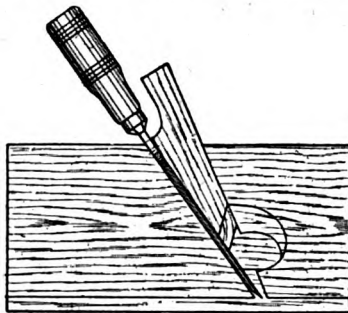
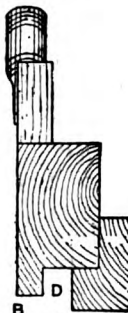
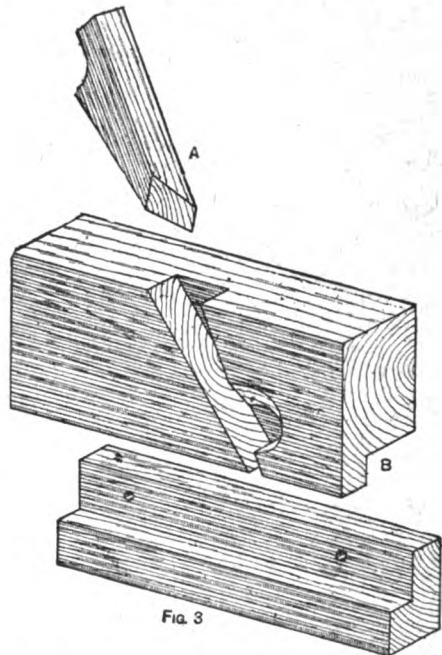

Fig. 1
Fig. 2
Fig. 3
**Sitting-room Chair.**—Fig. 1 shows in part elevation a form of chair known as a ladder-back. The joints of the chair should be made with stub-tenons and mortises. The back is framed up to 3 ft. high, 1 ft. 6 in. wide at the top, and 1 ft. 2 in. at the bottom. The front is 1 ft. 4 in. high by 1 ft. 6 in. wide over all, the total width of the seat from the front to the back being 1 ft. 4 in. A loose seat (see Fig. 2) is framed from 2 in. by 4 in. pine, and webbed on the top; the holes B fit on to
tenons A (Fig. 1) in the top of the knee and prevent the seat moving. In making the back would be framed up complete, then the front, and the two parts connected by the side rails, the seat frame being made last. Beech wood is excellent for chairs, being very clean and bright in grain, but is more expensive than birch; the latter wood is used in immense quantities for chair-making. In the shops the beading would be done on a spindle machine; a hand home-made tool for beading is shown in Fig. 3, being simply two pieces of hardwood screwed together, the cutter being a thin piece of steel filed to shape and placed between the two pieces of wood; the fence keeps the cutter in a true working line. A profile of the bead is shown at C (Fig. 3). Shop-made handbeaders with iron stocks can be purchased fairly cheaply.
tioned together, have the threads in the top strip running across the threads in the bottom strip. When the strips have been rolled well together the ends are joined, one end of the top overlapping the bottom, and the other end of the bottom overlapping the top strip. The tyre is made up on a block of the diameter and shape of the tyre. A section of the block is shown in Fig. 1. On each side of the block running round the circumference is a bead or ledge, on which the wires are placed. The fabric is put over the block and the wires over the fabric on to the beads or ledges. The fabric is put straight, solutioned, and turned over the wires each side and rolled down. When the fabric is dry, it is put over a dummy tyre (an air tube enclosed in a canvas case) and blown up on an ordinary wheel. The wheel is fixed on the bench between two upright strips, slotted to take the spindle passed through the hub. The rubber is put on after being cleaned with benzoline and coated with solution. To get the lines or corrugations straight a guide (Fig. 2) is used. This is made to fit on the edge of the rim and into the corrugations. After the rubber has been well rolled down the edges are trimmed off and the inside of the tyre is rubbed over with French chalk. When the tyres are of ordinary canvas they can be made without the block. If the tyre is to be 3 in. wide, cut the canvas 8 in. wide. Solution one side only. With blue lead draw lines 3 in. apart and 2 in. from each edge. On these lines the canvas will be folded over the wires. The canvas will overlap 1 in., giving three thicknesses for the tread. Solution and roll down the overlapping portion, and solution on this side for the rubber. The canvas can then be blown up on a wheel. A handy tool for stripping off old rubbers can be made as follows. Bend a piece of sheet iron, about No. 12 gauge, as shown in Fig. 3. A gas tube is fixed under the plate with small holes drilled in it at intervals; this is connected to the gas bracket by a rubber tube. The tyre is placed over the hot plate, when the rubber will come off easily.
**Home-made Plough Plane.**—The drawings show a very handy form of plough plane that can be easily made. The stock may be of any wood, but hard wood for preference, the lower part being rebated so as to leave a projection a little smaller than the plough iron, as shown at B (Figs. 2 and 3), or, as is shown in Fig. 1, a chisel will answer the purpose; then by making a wedge-shaped slot, and gouging a hole out as illustrated for the escape of shavings, a wedge A (Fig. 3) can be made to the required shape; this will fasten the chisel into the stock. The
fence (Figs. 2 and 3) is made of another piece of hard wood, which is rebated so as to leave the required distance for working from the side of the material (marked D, Fig. 2). It can be secured to the stock by a couple of screws. The disadvantage of this plane is that the fence would require to have a deeper or shallower rebate for each new job, but the alterations could be made without much trouble.
**Child's Combined Running Stool and Barrow.**—The combined running stool and wheelbarrow illustrated by Fig. 1 may be used for teaching a young child to walk. The leading dimensions are figured on the side and end elevations, Figs. 2 and 3, whilst the following are particulars of the construction. The shafts and handles are  $\frac{1}{2}$  in. square, the legs  $\frac{1}{2}$  in. in diameter, and the rails A, B, and C (Fig. 1)  $\frac{1}{2}$  in. in diameter; they should be made of ash, the body support D,  $\frac{1}{2}$  in. thick finished, being made of any hard wood. The edges of the hole should be rounded off, and the ends of the support fit into grooves made in the
handles, the parts being screwed together. Any kind of wood will be suitable for the barrow, even deal; the bottom end and sides are all  $\frac{1}{2}$  in. thick, and the last are 8 in. wide. The wheels ( $\frac{1}{2}$  in. by 6 in.) and the spindle ( $\frac{1}{2}$  in. square) are made of hard wood. The most suitable joint between the legs and handles at E (Fig. 2) will be the mortise and tenon, and the three rails A, B, and C fit holes bored in the legs and shafts. A groove formed in each of the sides receives the front, and ordinary castors can be used for the bottom of the legs, but those of the ball pattern will be more suitable, as they readily move in any direction. Having cut out the spindle, this being of a square section so that the wheels can be fitted on to it better, its ends can be connected to the shafts by means of a couple of 4-in. round-headed screws, these of course working freely in the holes of the shafts, but fitting tightly into the ends of the spindle. All the parts that come in contact with the child's hands or body are rounded.